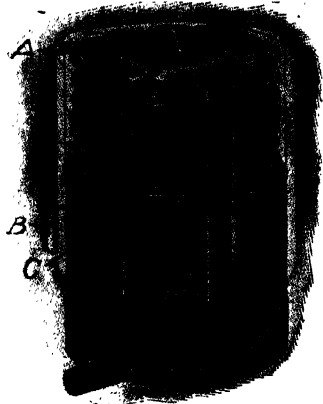

Fig. 43. Lane Boiler
**Special Types. *Lanc.*** The Lane boiler, Fig. 43, was a combination of the fire-tube and flash systems. The main part of the boiler was of the fire-tube type, with very large tubes. Above this were several coils of brass tubing, the water entering the top and getting hotter as it passed down the tubes until it was partly converted into steam by the time it passed into the main part. The water was here separated from the steam, falling to the bottom of the boiler, while the steam was superheated by coming in contact with the hot upper portion of the fire tubes.